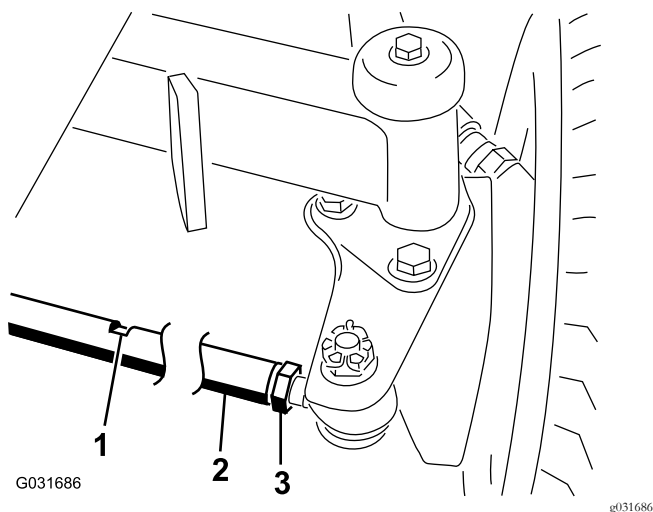

Figure 48
- Loosen the jam nut on each end of the tie rod (Figure 48).